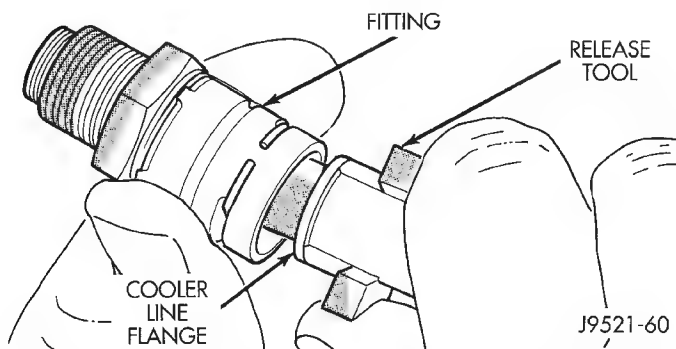
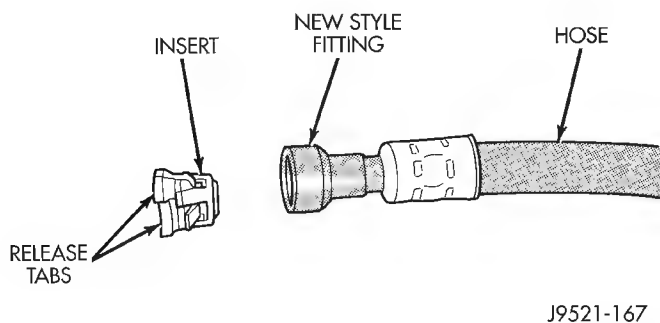

Fig. 29 Disconnecting Cooler Line With Release Tool (Type 2 fitting)
Fig. 30 New Style Quick Connect Fitting With Insert
Early production models will have the type 2 fitting used previously. This fitting requires a release tool to disconnect the cooler line from the fitting (Fig. 29). Later production models will have a new style fitting that does not require any type of release tool. This fitting has a plastic insert with built-in release tabs (Fig. 30).
(1) If fitting and cooler line are encrusted with dirt, mud, or grease, clean fitting and cooler line with Mopar spray type carburetor or brake cleaner. Plastic release tool will not fit into retainer clip if fitting is full of foreign material.
(2) Slide small plastic release tool into fitting until tool bottoms against cooler line flange (Fig. 29).
(3) Push and turn release tool to spread retainer clip and pull cooler line out of fitting (Fig. 29).
(4) Cover open ends of cooler lines and fittings to prevent dirt entry.
(5) Inspect condition of fitting. Replace transmission fitting as an assembly if fitting body or retainer